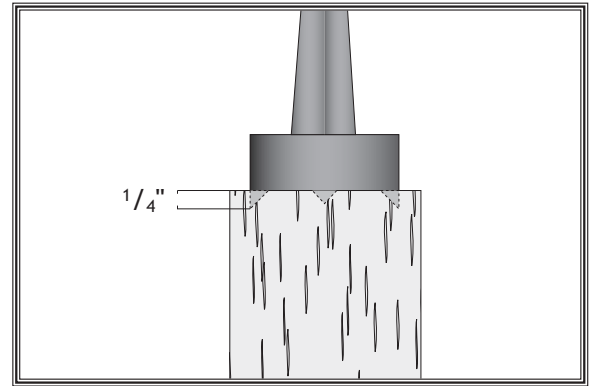

Figure 30. Spur center properly embedded.
6. Drive spur center into end center mark of workpiece with a wood mallet to embed it at least 1/4" into workpiece, as shown in **Figure 30**.